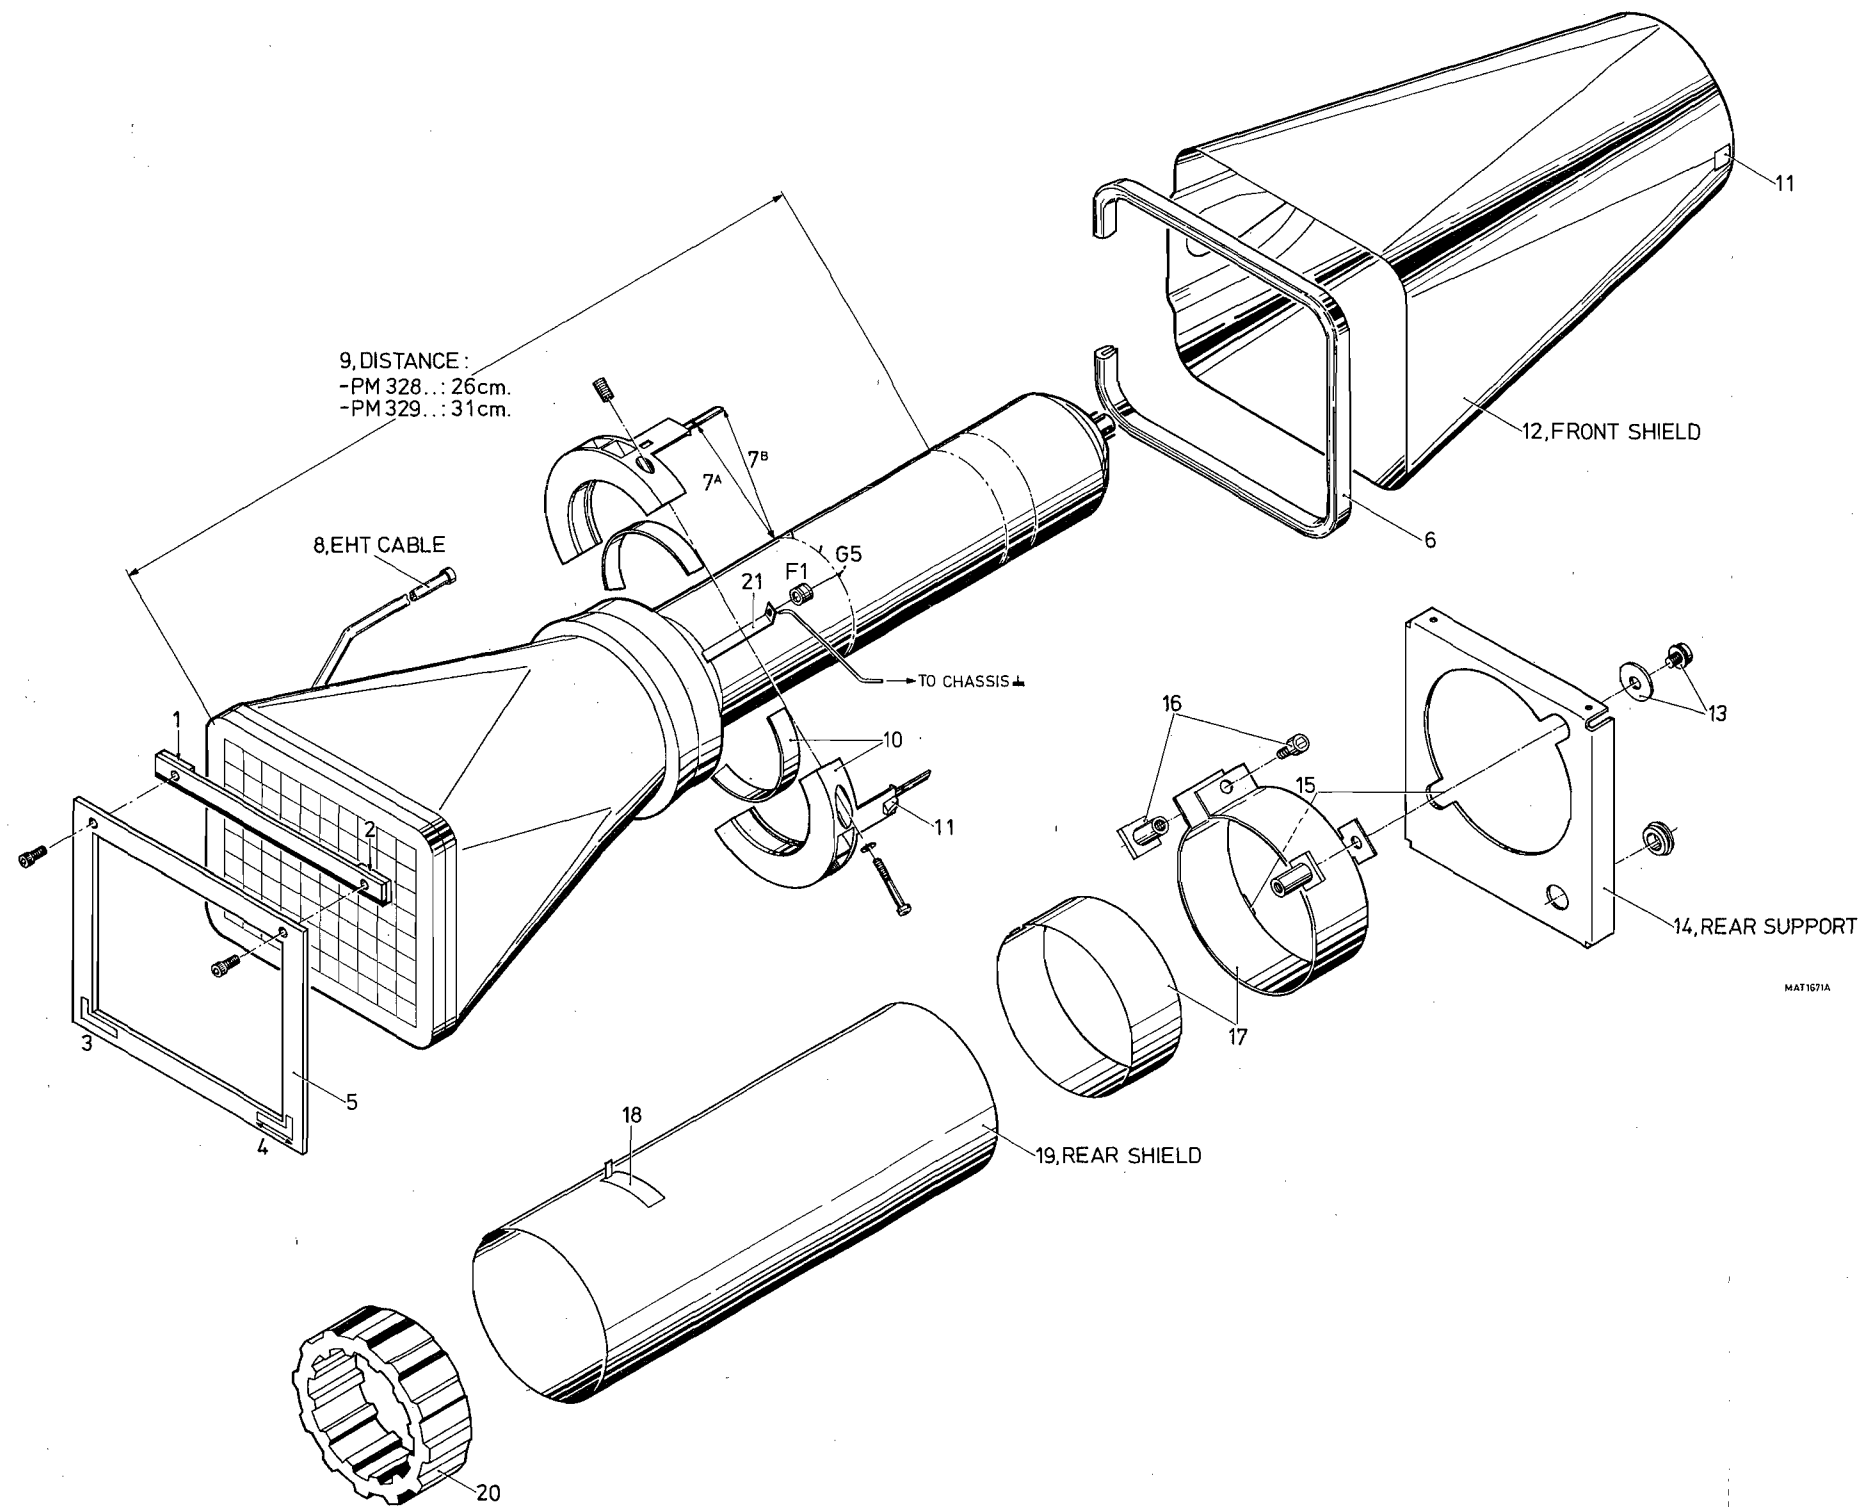

Fig.26.6. Exploded view of CRT and belonging mechanical parts.
**IMPORTANT:** It is strongly recommended to take notice of this chapter and belonging figure 26.6. before starting the job. Bear in mind that there are slight differences between PM328.. and PM329.. Where it happens, it is indicated.
- Install the positioning ring (10) so that the end of the positioning tags (7B, PM329.) or the indication line on the tags (7A, PM328.) are at the same level as the side connection pins of the CRT (see fig 26.6.). The position of the clamping springs (11) must be so, that the front shield (12) fits correctly into them. When doing this, take care of the correct positioning of the EHT-cable (8) and the trace rotation wires and mount the plastic rim (6). For PM329. the earthing bracket (21) for protection tube F1 must be positioned under ring (10). This bracket also earthens the CRT.
- Put the rubber ring (20) around the CRT. The distance (9) between the ring and the end of the CRT-screen must be 31 cm for PM329. and 26 cm for PM328..
- Slide the rear shield (19) into the front shield until it touches the positioning ring. The position of the rear shield must be so that all the CRT's side connections are visible through the square holes (18) in the shield.
- Put the bracelet (17) and the CRT rear support (14) around the rear shield and mount the fixing material in hole (15) of the rear support without tightening it. The result is that the bracelet and rear support can be slid along the rear shield.
- Now the CRT can be put into the instrument. The screen must touch the front plate (5). The horizontal positioning part (4) and the top positioning parts (1) and (2) must be fixed (with their hexagon screws) so that the CRT is pressed into the fixed positioning part (3). The variable positioning parts can be pressed with a screwdriver via the belonging holes in the front plate; after that they are secured with the belonging hexagon screw.
- After this the bracelet can be fixed with the mounting material (13), (15) and (16).